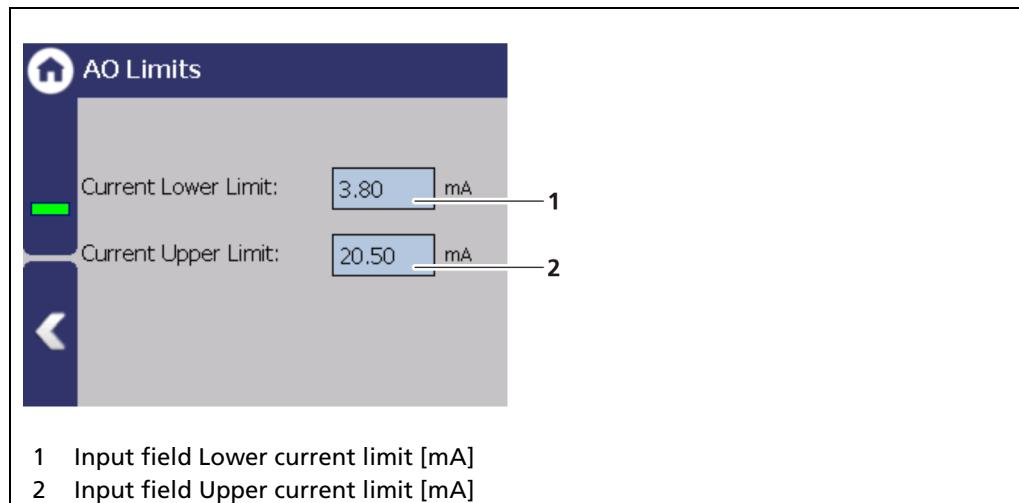

Fig. 117 Analog Output (AO Limits)
By clicking on the input fields (Fig. 117, item 1, item 2), the values [mA] for the lower and upper current limit can be set. In addition to the default value of 3.8 mA, the lower current limit can be set to 0 mA in order to switch the current output from 4 ... 20 mA to 0 ... 20 mA.